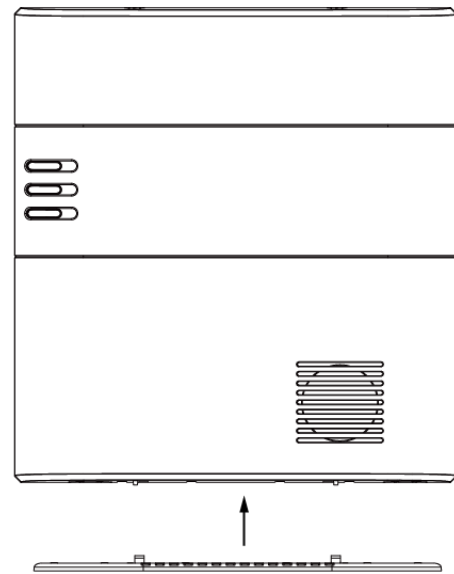

Figure 5
- II. Replace the standing base. (figure 5)